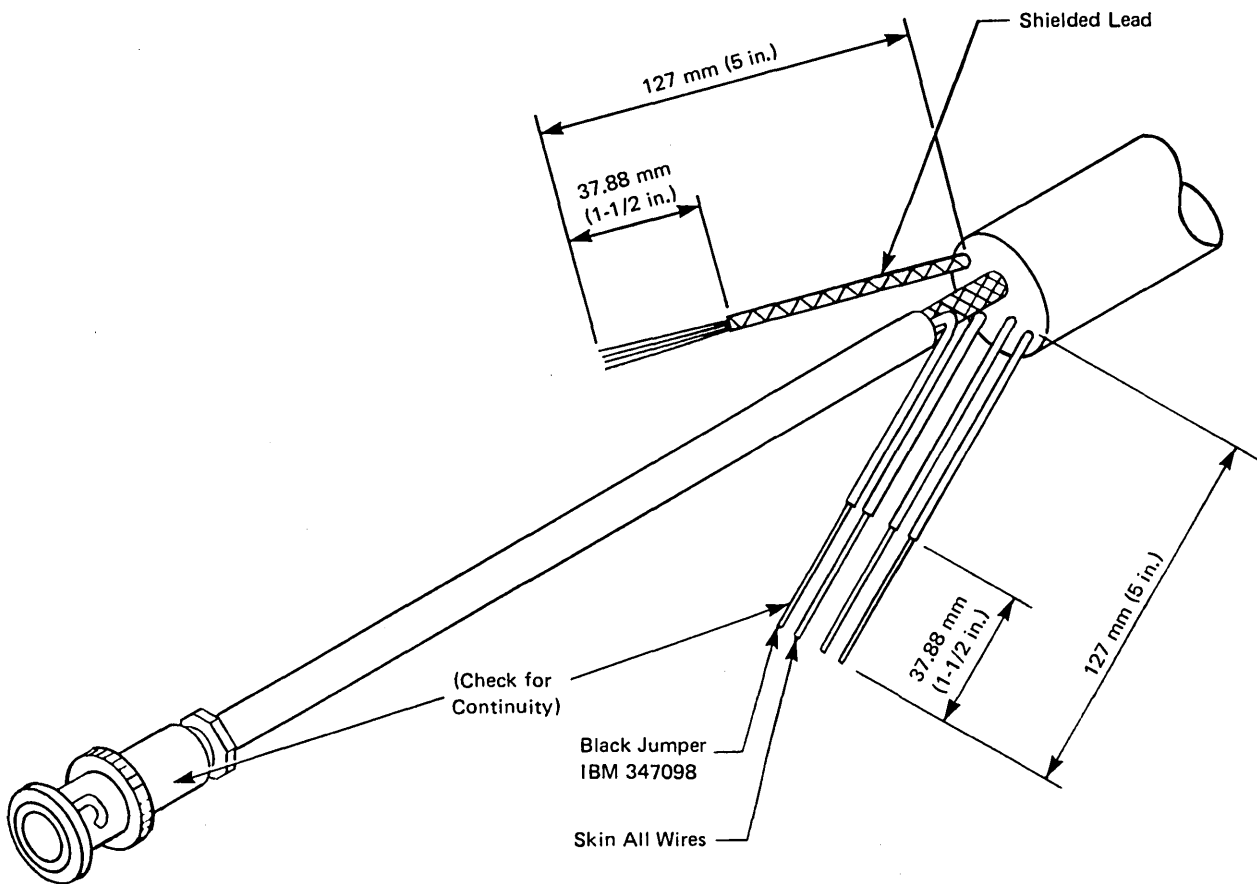
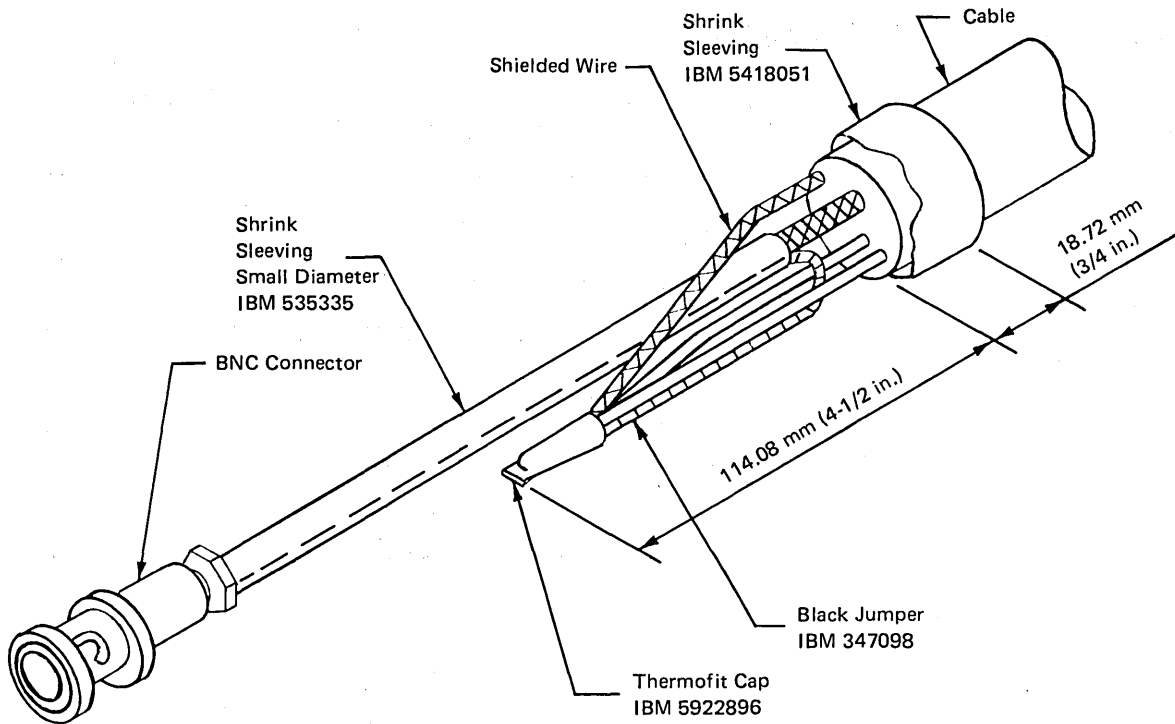

Figure 5-3. Procedure for Step 8, Stripping Insulation
Figure 5-4. Procedure for Step 8, Installing Thermofit Cap
7. Check with the meter to make certain that the body of the BNC connector has continuity to the end of the black jumper wire coming out of shrink tubing (Figure 5-3). If it does not, remove the BNC connector and check step 6.
8. Cut the remaining cable wires to a length of approximately 127 mm (5 in.) from the cable jacket, and strip the insulation 38.1 mm (1-1/2 in.), being careful not to cut the braid. Push the braid back along the wire as far as possible, and strip the center wire (Figure 5-3). Pull the braided wire back in place, and twist all the unskinned wires of cable together. Trim off approximately 12.7 mm (1/2 in.) of the end of the twisted wire bundle. Place the thermofit cap, IBM PN 5922896, over the wires, and shrink it in place. (See Figure 5-4.)
9. Dress the leads alongside the cable, and slide the large-diameter shrink tubing, IBM PN 5418051, back over the cable to a point approximately 19.1 mm (3/4 in.) beyond the edge of the cable jacket (Figure 5-4). Shrink the tubing in place with the heat gun.
The remaining braid may be cut off or dressed in with the other wires along the cable body. Dress the coaxial alongside the cable, and slide the large-diameter shrink tubing, IBM PN 5418051, back over the entire cable. Shrink the tubing in place (Figure 5-4).